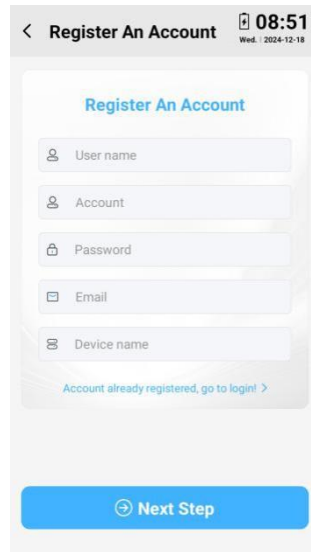

Figure 4.8-1 Registration interface
(1) Click on the cloud platform synchronization button of the instrument to enter its interface for registering an account (if an account exists, you can skip the registration step and log in directly), as shown in Figure 4.8-1;